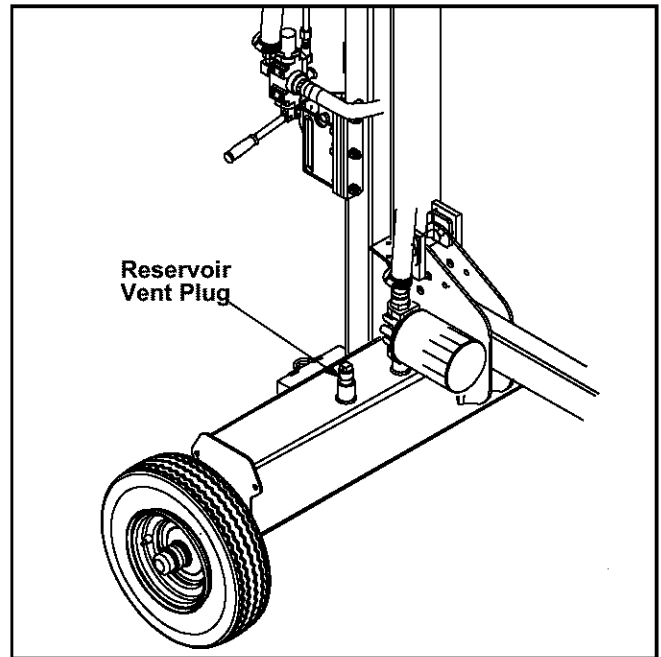

Figure 4
- Remove reservoir vent plug. See Figure 4.